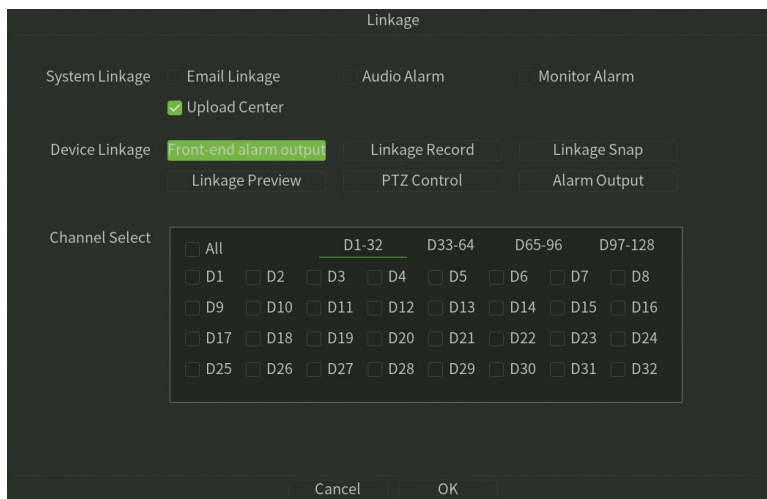

Figure 7.7 Linkage
10. **Linkage:** Click Linkage button, Setup the linkage operation of the function, as shown in figure 7.7.